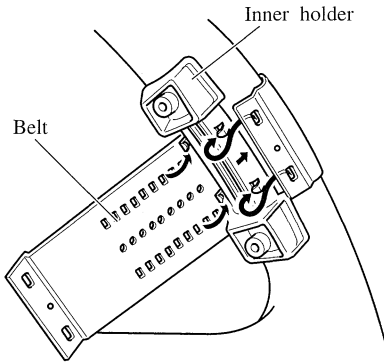

Fig. 10
1. Secure inner holder to the inner circumference of the steering wheel with belt. (Fig. 10)